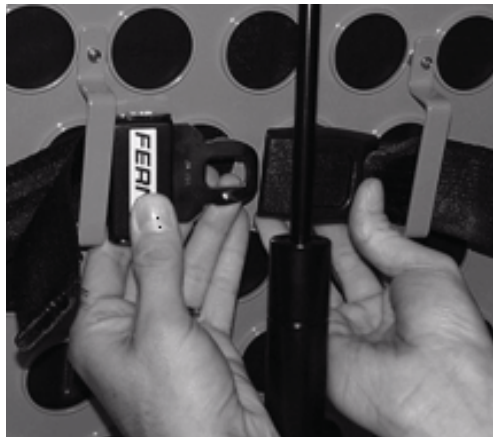

Figure 52.2: Fastening the Pedi-Mate® Buckle
4. Wrap the straps around the backrest and insert the ends of the straps through the brackets. Securely fasten the buckle (see Figure 52.2).